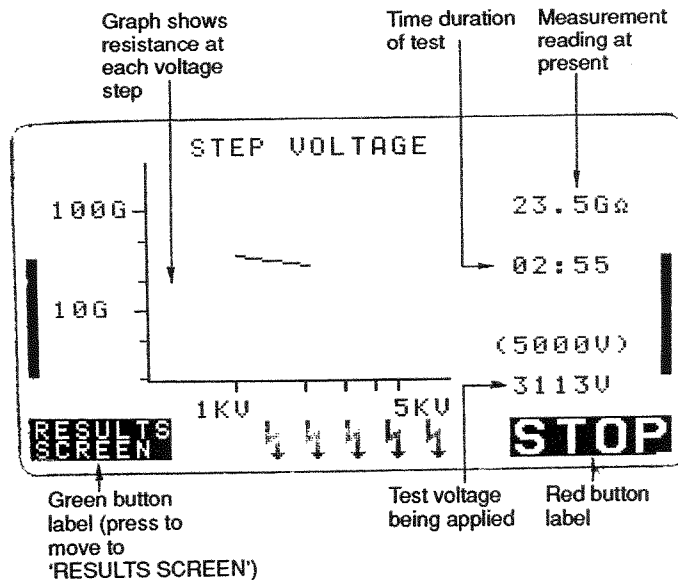

Figure 29 Typical 'GRAPHIC DISPLAY' screen in an enhanced SV test
- In the enhanced test three screen displays are available. Pressing the green button cycles between the three displays. This button has the label of the next screen display available i.e. the 'RESULTS SCREEN', followed by 'ANALOGUE DISPLAY', followed by 'GRAPHIC DISPLAY'. Typical examples of the 'RESULTS SCREEN' and the 'GRAPHIC DISPLAY' and what they show are illustrated in figures 29 and 30.